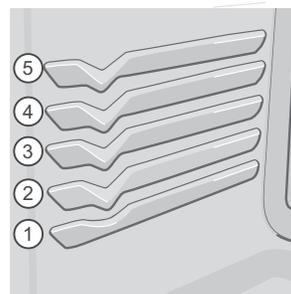

Figure 25: Rack positions
- For best results when baking cakes using two oven racks, place racks in positions 2 and 4 (Figure 25).